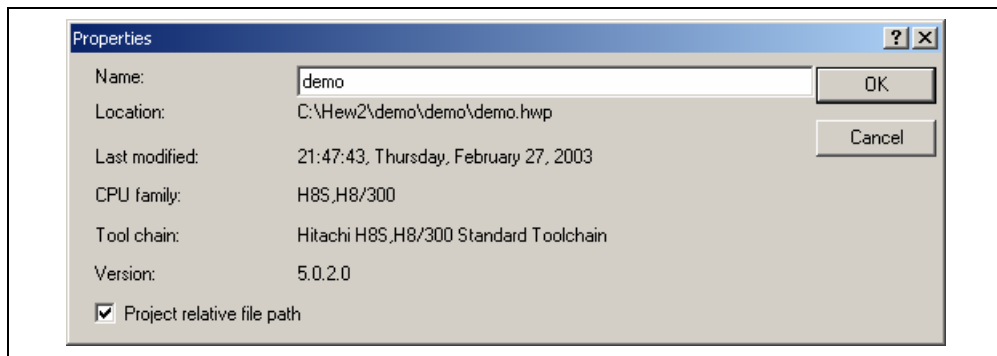

Figure 2.25: Properties Dialog
3. Click the “Project relative file path” checkbox to switch on or off the relative file path feature. (figure 2.25)